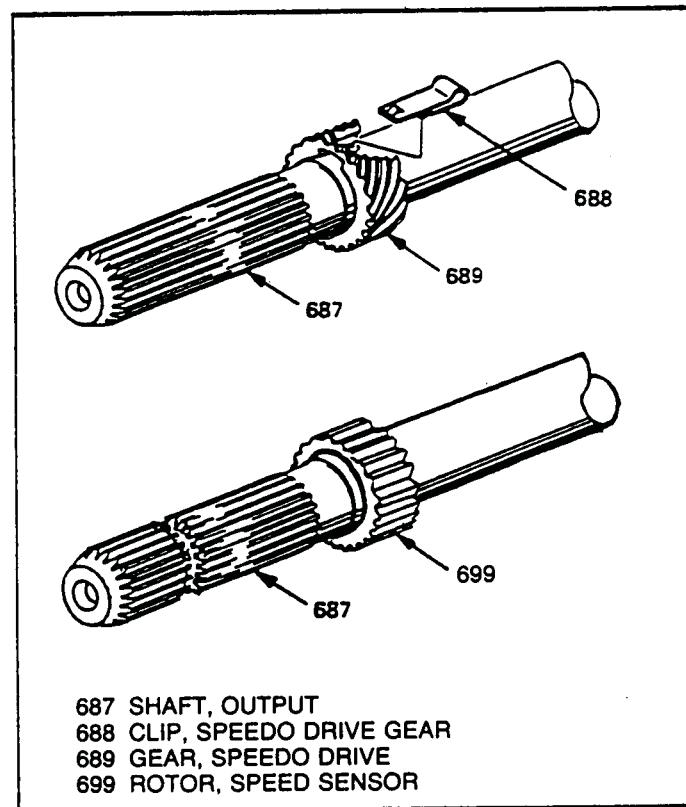

Figure 51
6. Push down on tab of speedometer gear clip, and tap speedometer gear off of the output shaft using care not to damage the speedo gear (Figure 51).
7. Remove speed sensor rotor from the output shaft with puller. Some models have plastic speedometer gear, and some models have speed sensor rotor in this location (See Figure 51).